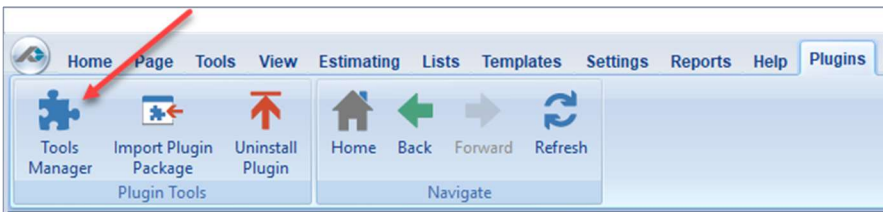

Figure 2
2. Click on the **Tools Manager** on the **Plugins Ribbon-bar Menu** (Figure 2).